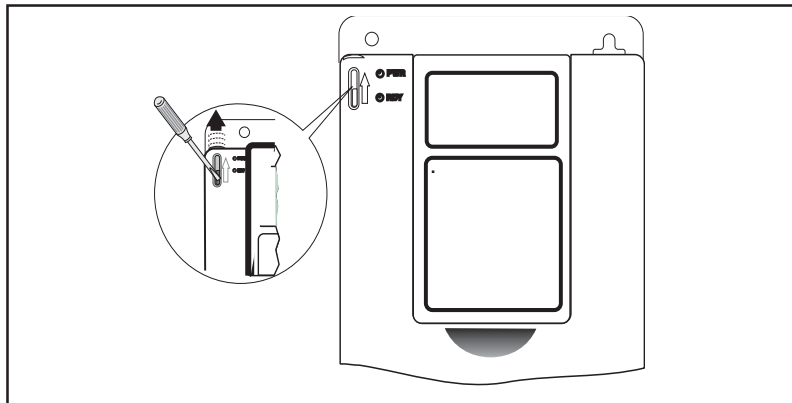

Figure 6.1 – Opening the Drive Cover
- Step 1. Locate the slot in the upper left hand corner of the drive (see figure 6.1).